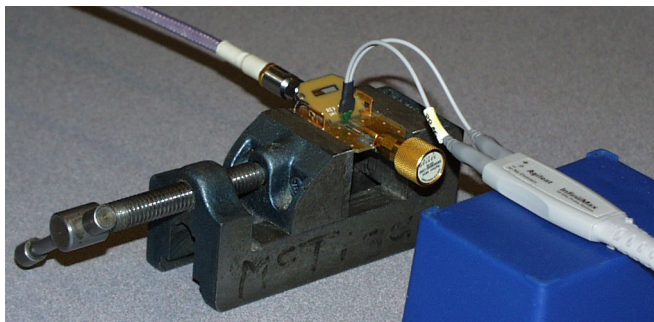

Figure 211 Setup for Measuring V_{out}
- 39 Connect the Calibration Standard load to PV/DS test board (non-pincher side) as shown in **Figure 211**.